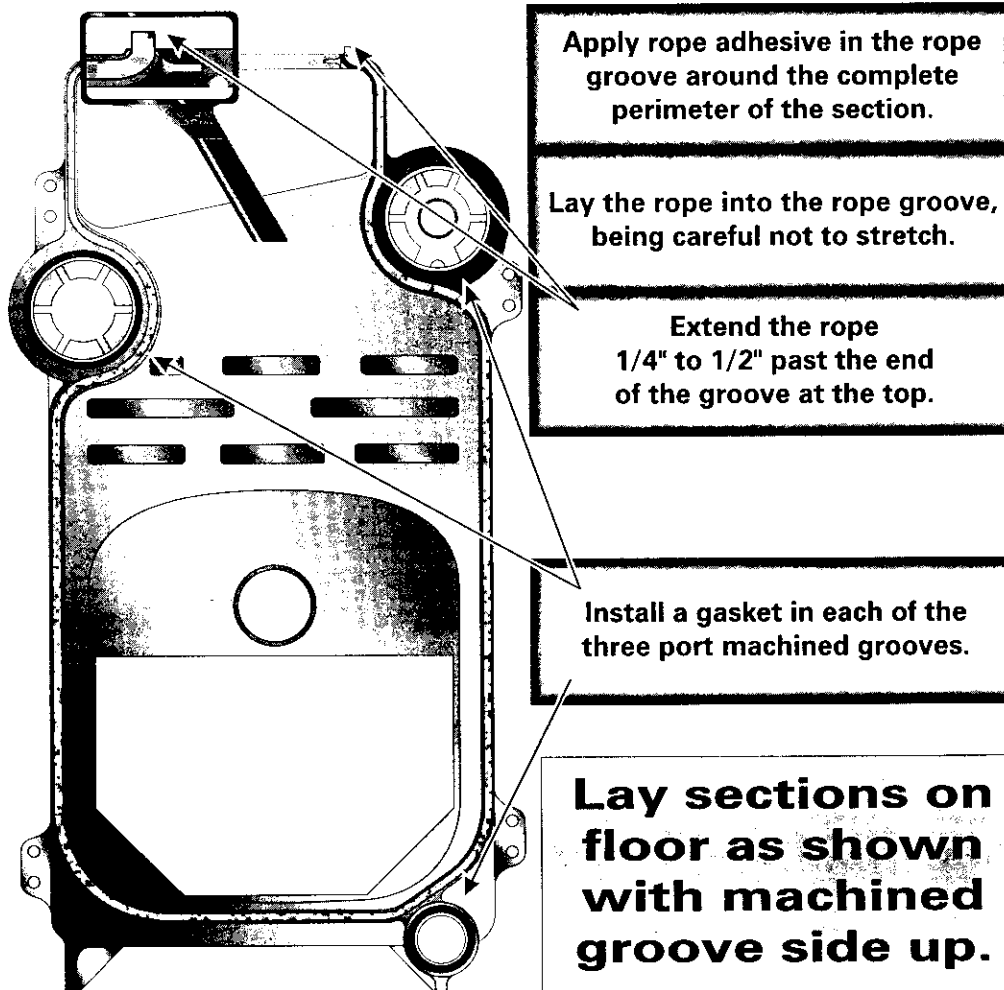

Figure 7: Lay Sections on Floor and Apply Rope Seal and Gaskets
3. Place the Back Section on the floor as shown in Figure 7.
6. Place a Flow Port Gasket in each of the three flow port recesses as shown in Figures 7 and 8.